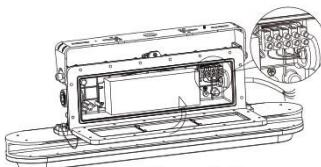

Figure 0-3
6. Secure the driver box cover with screws. (Figure 0-3)